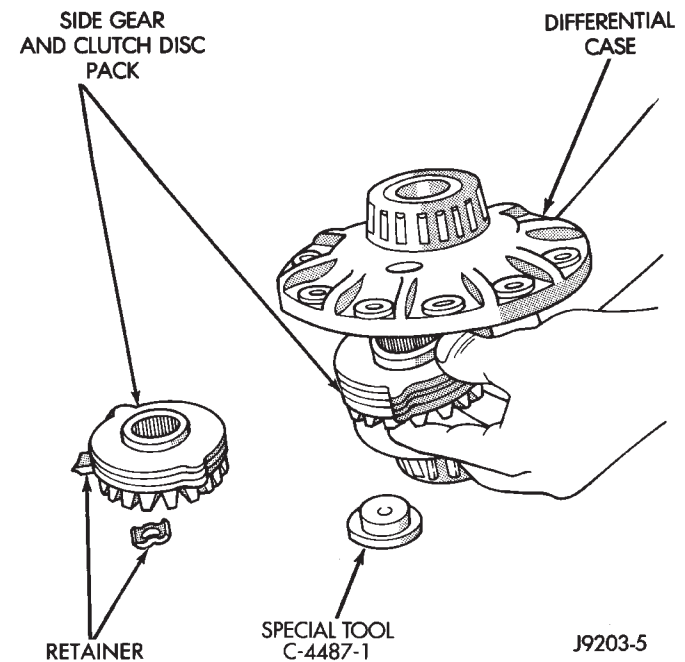

Fig. 13 Side Gear & Clutch Disc Removal
(12) Remove top side gear and clutch pack. Keep plates in correct order during removal (Fig. 13).
(13) Remove case from fixture. Remove remaining clutch pack.